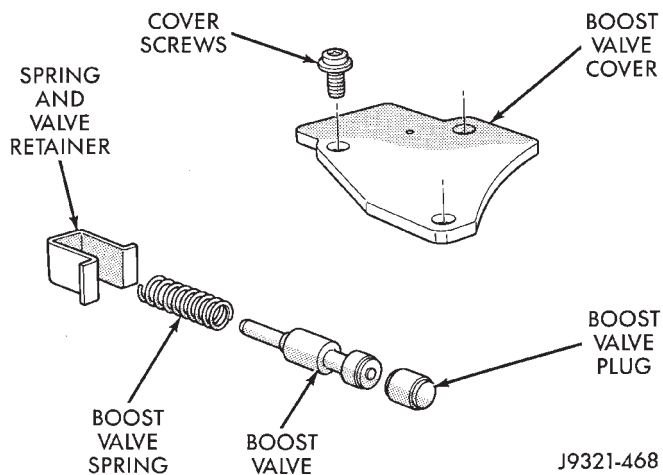

Fig. 43 Boost Valve Components
(13) Remove boost valve retainer, valve spring and boost valve (Fig. 43).